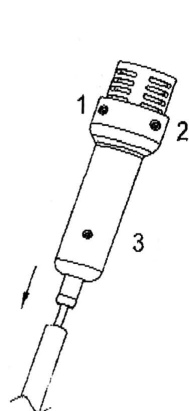

Fig.1
1. Unscrew the 3 screws on handle then take out the handle cover. (See Fig.1 below)